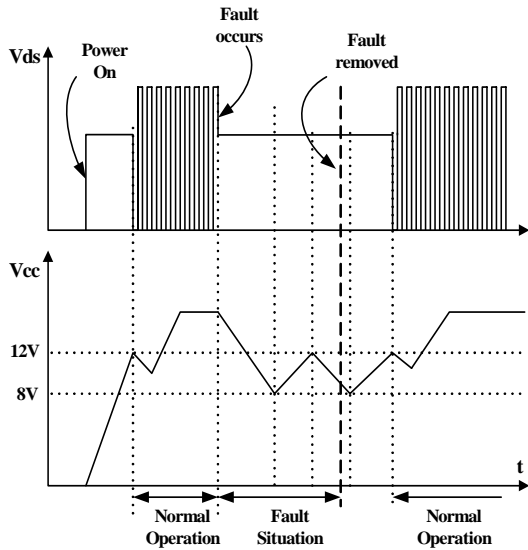

Figure 19. Auto Restart Operation
**3. Protection Circuit:** The FSCM0565R has several self protective functions such as over load protection (OLP), over voltage protection (OVP) and thermal shutdown (TSD). Because these protection circuits are fully integrated into the IC without external components, the reliability can be improved without increasing cost. Once the fault condition occurs, switching is terminated and the SenseFET remains off. This causes Vcc to fall. When Vcc reaches the UVLO stop voltage of 8V, the current consumed by the FSCM0565R decreases to the startup current (typically 25uA) and the current supplied from the DC link charges the external capacitor (Ca) that is connected to the Vcc pin. When Vcc reaches the start voltage of 12V, the FSCM0565R resumes its normal operation. In this manner, the auto-restart can alternately enable and disable the switching of the power SenseFET until the fault condition is eliminated (see Figure 19).